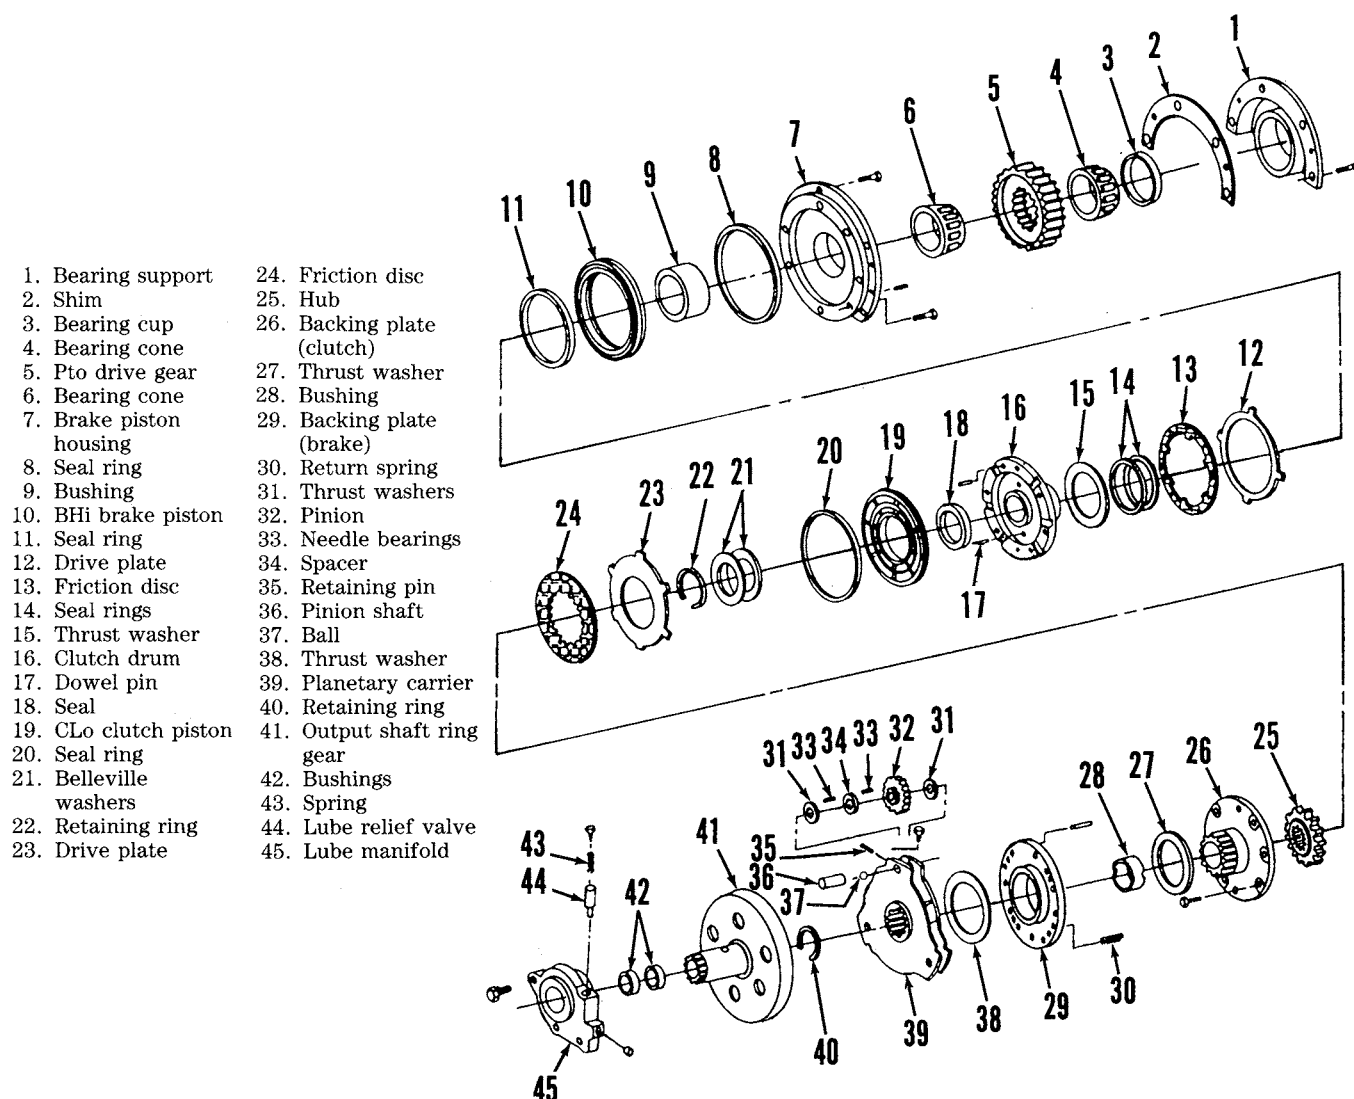
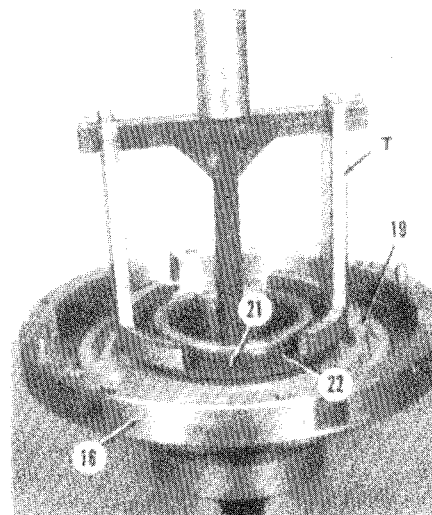

Fig. 167—Exploded view of input planetary, BHi brake and CLo clutch used on Power Shift models.
Fig. 169—Use suitable horseshoe shaped tool (T) to compress Belleville washers (21) in order to remove and install snap ring (22).
143. INPUT PLANETARY AND HI-LO BRAKE AND CLUTCH ASSEMBLY. Refer to paragraph 133 for removal procedure. Lift planetary carrier (39—Fig. 167) from brake piston housing if not done during removal. Remove Allen head cap screws and retaining pins (35) from each planet pinion shaft. Push pinion shafts (36) from pinion gears (32), then withdraw gears and thrust washers (31).
To disassemble clutch and brake assembly, remove cap screws securing backing plate (29—Fig. 167) to brake piston housing (7), then separate backing plate from piston housing. Remove thrust washer (27). Remove clutch backing plate (26) mounting cap screws and pry backing plate from clutch drum (16). Remove brake disc (13) and separator plate (12). Remove clutch hub (25), clutch disc (24) and separator plate (23). (Two clutch discs and plates are used on 4650 and 4850 models.) Thread two cap screws into clutch drum (16), then lift drum from brake piston housing (7). Pull the brake piston (10) from the housing. Use a suitable horseshoe shaped tool (T—Fig. 169) to compress Belleville washers (21), then remove snap ring (22) and release spring pressure. Remove clutch piston (19) from clutch drum (16).
Inspect brake and clutch piston seal rings and re-new if necessary. Inspect all parts for excessive wear or other damage. Inside diameter of brake piston housing bushing (9—Fig. 167) should be 3.437-3.440 inches (87.3-87.4 mm) and outside diameter of clutch drum sleeve should be 3.433-3.435 inches (87.21-87.25 mm). Inside diameter of backing plate bushing (28) should be 3.755-3.757 inches (95.3-95.4 mm). Thickness of brake separator plate (12) when new is 0.114-0.122 inch (2.9-3.1 mm) and thickness of brake disc (13) when new is 0.114-0.118 inch (2.9-3.0 mm). Thickness of clutch separator plate (23) when new is 0.118-0.122 inch (3.0-3.1 mm) and thickness of clutch disc (24) is 0.111-0.118 inch (2.8-3.0 mm).
Coat all parts with clean hydraulic oil during assembly. When installing clutch piston (19—Fig. 167), be sure holes in piston are aligned with pins (17) in clutch drum. Be careful not to damage piston packing. On Models 4050, 4250 and 4450, install first Belleville washer (21) so inside diameter of washer contacts piston. Install second Belleville washer so inside diameter of washer will contact retaining ring. On Models 4650 and 4850, three Belleville washers are used. Install first washer so outside diameter of washer contacts piston. Install remaining two washers alternately so inside diameter of third washer will contact retaining ring. Use a suitable horseshoe shaped tool to compress Belleville washers so retaining ring (22) can be installed. When renewing brake piston housing bushing (9—Fig. 167), press bushing 0.120 inch (3 mm) below outer surface of housing hub. Be sure to install separator plates against brake piston (10) and clutch piston (19), then install friction discs. Tighten backing plate (26) mounting cap screws to 20 ft.-lbs. (27 N·m). When renewing bushing (28) in backing plate (29), press new bushing in until it
Assemble planet pinion gears (32—Fig. 167) with needle bearings into carrier. Be sure a thrust washer (31) is installed on each side of the pinions. Install pinion shafts (36) and retaining pins (35). Apply Loctite 222 to Allen head screws and tighten to 4 ft.-lbs. (6 N·m).